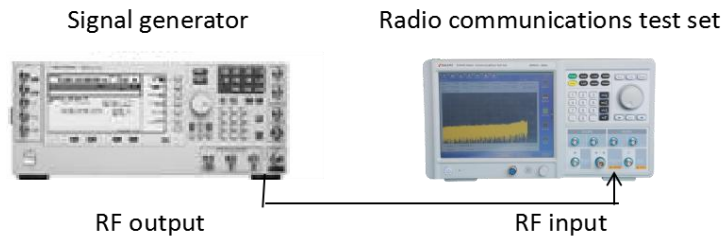

Fig. 4-5 RF receiver wiring diagram
The section introduces RF receipt operations of the S5104 series radio communications test set, and takes the Aglient E4438C signal generator for RF signal generation, with instrument wiring shown in Fig. 4-5. Start up the tester and warm it up for 15 minutes, and then click [Demodu] in the upper right of the screen to switch to the RF receipt performance test mode.
- 1) Connect the instrument as per Fig. 4-5;